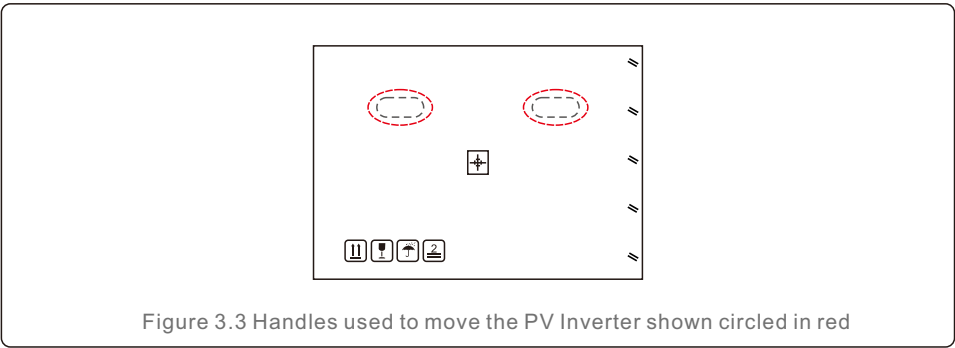

Figure 3.3 Handles used to move the PV Inverter shown circled in red
1. The red circles below denote cutouts on the product package. Push in the cutouts to form handles for moving the PV Inverter (see Figure 3.3).